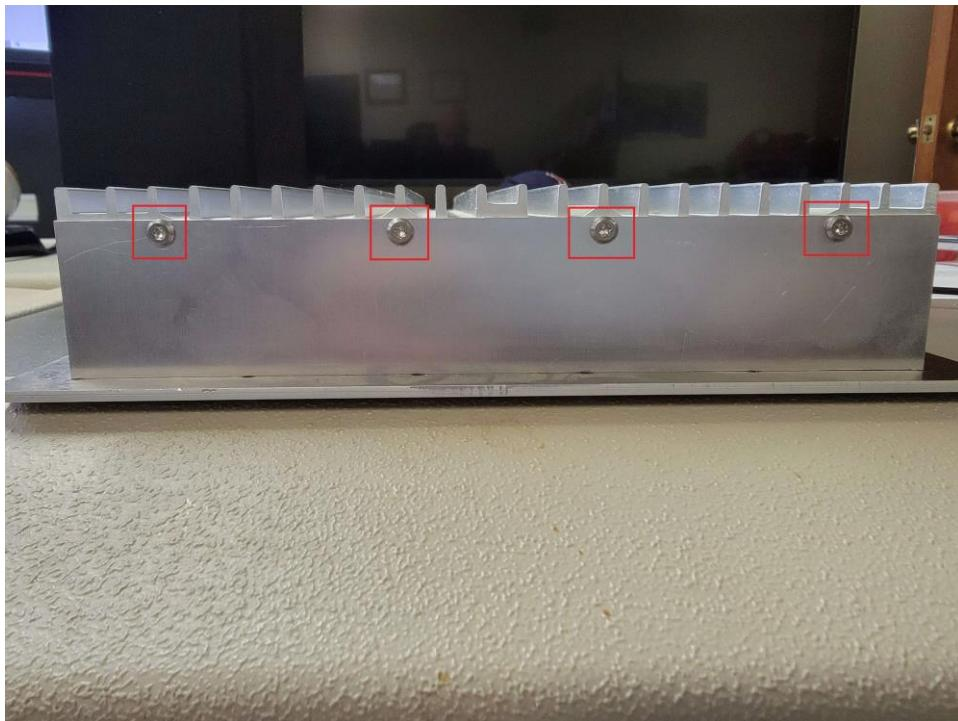

Figure 8-24: CCU / MDS Computer Backplate with T8 Screws
1. Remove the (4) T8 screws from the back plate and remove the back plate of the computer. See Figure 8-24.